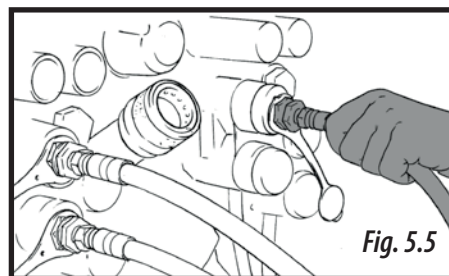

Fig. 5.5
**4-** Connect the following plugs from the hydraulic system to the tractor's hydraulic connections (Fig. 5.5):